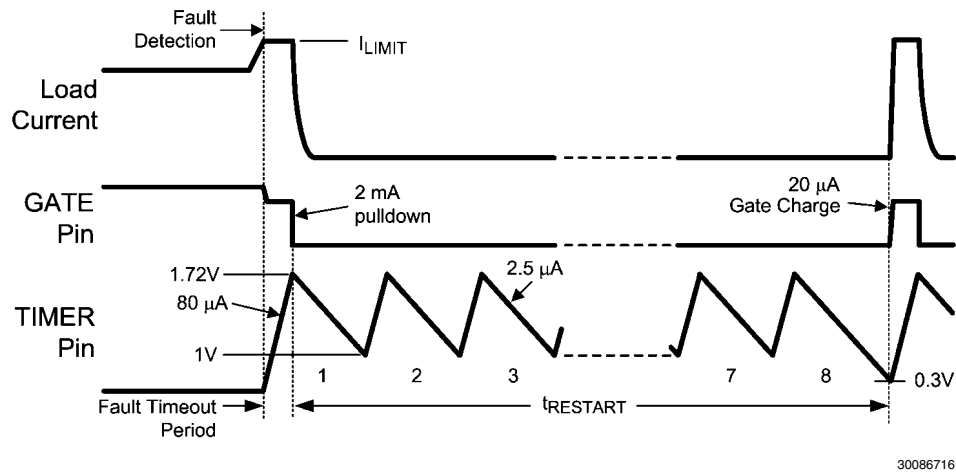

FIGURE 5. Restart Sequence (LM25069-2)
When the current limit or power limit threshold is reached during turn-on or as a result of a fault condition, the gate-to-source voltage of Q1 is modulated to regulate the load current and power dissipation in Q1. When either limiting function is activated, an 80 μA fault timer current source charges the external capacitor (C_T) at the TIMER pin as shown in *Figure 5* (Fault Timeout Period). If the fault condition subsides during the Fault Timeout Period before the TIMER pin reaches 1.72V, the LM25069 returns to the normal operating mode and C_T is discharged by the 2.5 μA current sink. If the TIMER pin reaches 1.72V during the Fault Timeout Period, Q1 is switched off by a 2 mA pull-down current at the GATE pin. The subsequent restart procedure then depends on which version of the LM25069 is in use.
The LM25069-2 provides an automatic restart sequence which consists of the TIMER pin cycling between 1.72V and 1V seven times after the Fault Timeout Period, as shown in *Figure 5*. The period of each cycle is determined by the 80 μA charging current, and the 2.5 μA discharge current, and the value of the capacitor C_T . When the TIMER pin reaches 0.3V during the eighth high-to-low ramp, the 20 μA current source at the GATE pin turns on Q1. If the fault condition is still present, the Fault Timeout Period and the restart cycle repeat. The Fault Timeout Period during restart cycles is approximately 18% shorter than the initial fault timeout period which initiated the restart cycle. This is due to the fact that the TIMER pin transitions from 0.3V to 1.72V after each restart time, rather than from ground.
C) Restart Timing For the LM25069-2, after the Fault Timeout Period described above, C_T is discharged by the $2.5 \mu\text{A}$ current sink to 1.0V. The TIMER pin then cycles through seven additional charge/discharge cycles between 1V and 1.72V as shown in *Figure 5*. The restart time ends when the TIMER pin voltage reaches 0.3V during the final high-to-low ramp. The restart time, after the Fault Timeout Period, is equal to: